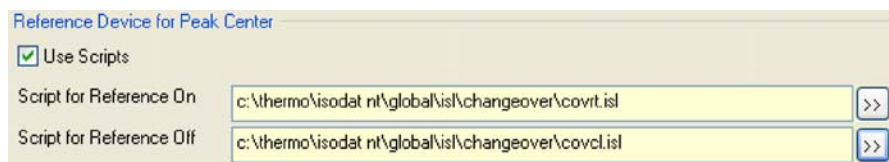

Figure 3-57. Choosing the script files
7. At Script for Reference Off, click on the  button. Browse to the folder C:\Thermo\Isodat NT\Global\ISL\ChangeOver and choose the script file Covcl.isl to close the changeover valve (COV). See Figure 3-57.